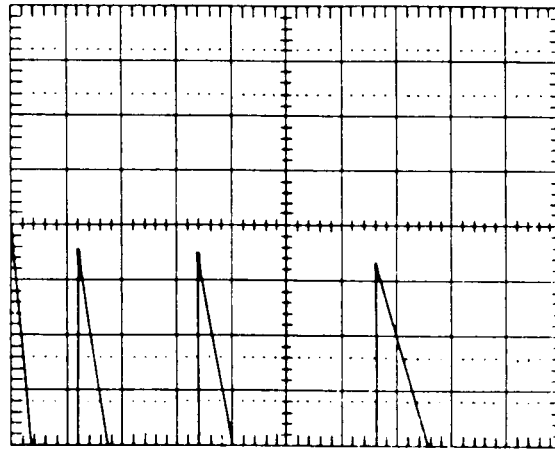

Figure 10. Oscilloscope display.
- (27) Disconnect multimeter from TI. Connect **SWEEP OUTPUT** to oscilloscope **CH2** input.
- (28) Connect oscilloscope CH1 input to A6TP8. Press **INSTR PRESET** key.
- (29) Set oscilloscope as listed in (a) through (d) below:
- (30) Set oscilloscope for an X versus Y function operation and adjust oscilloscope controls as required to obtain a display as shown in figure 10.